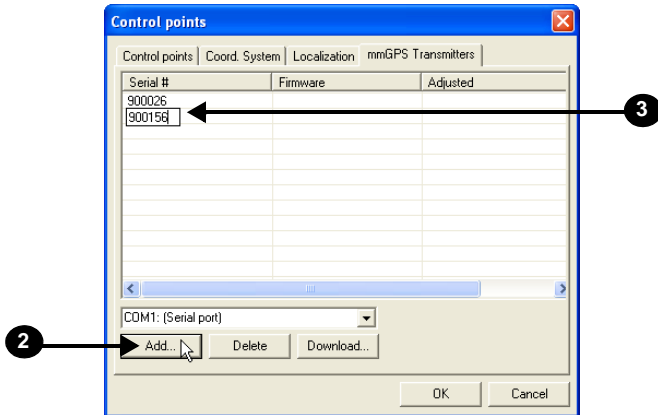

Figure 9-22. Add New Transmitter
3. Enter the serial number of the new transmitter and press **Enter** (Figure 9-22).